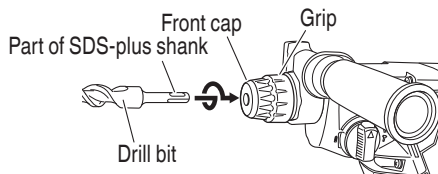

Fig. 7
3. Mounting the drill bit (Fig. 7,8)
- (1) Clean the shank portion of the drill bit.
- (2) Insert the drill bit in a twisting manner into the tool holder until it latches itself. (Fig. 7)